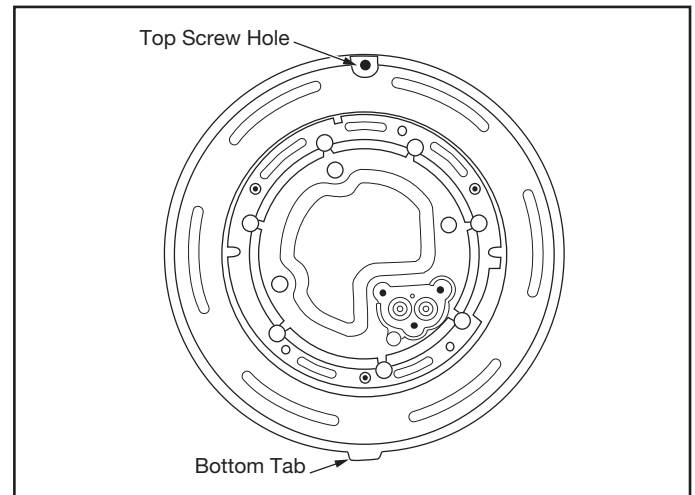

Figure 5. Lumipower Flush Mount - Rear of Light Engine
10. On the face plate, identify and position the screw hole at the top and the protruding tab at the bottom. See Figure 5.